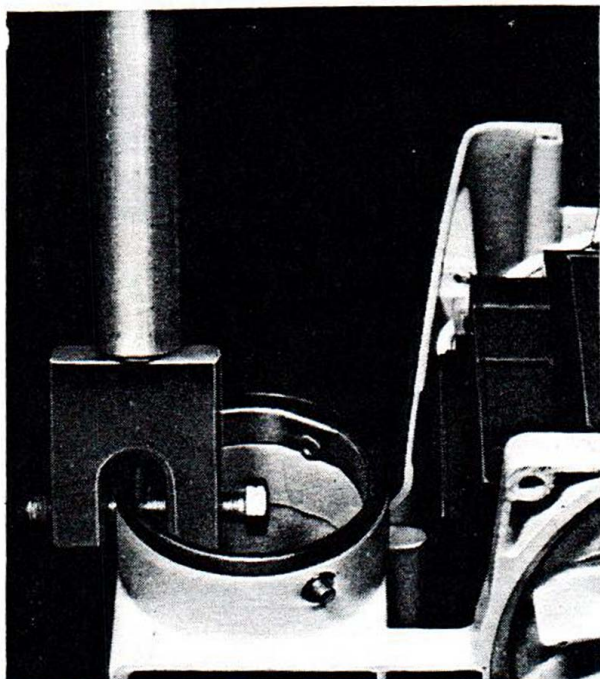

Figure 19. Exhaust Horn Gasket Installation
- C. To install replacement sleeve and gasket, use special tool T145 to seat new rivets. (See Figure 19.)